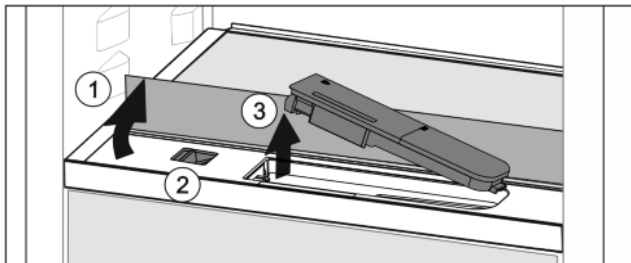

Fig. 38
- ▶ Lift the glass panel and fold towards the rear until it clicks into place Fig. 38 (1).
- ▶ Slide the slider Fig. 38 (2) to the left.
- ▶ Remove the water tank Fig. 38 (3).